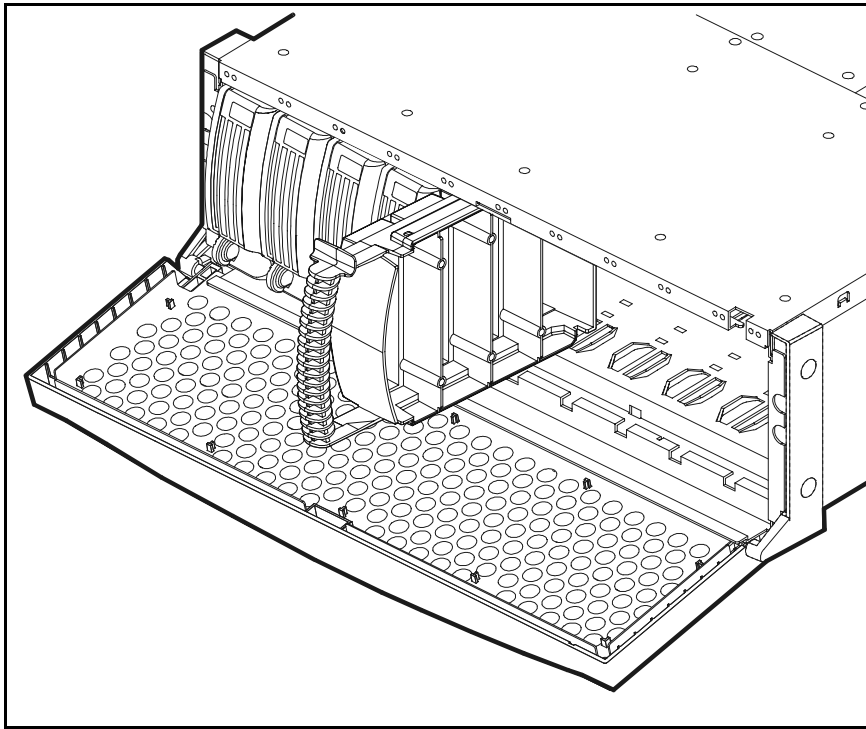

Figure 30 Disk Filler Insertion
8. Insert disk fillers in remaining empty slots. (See Figure 30.)